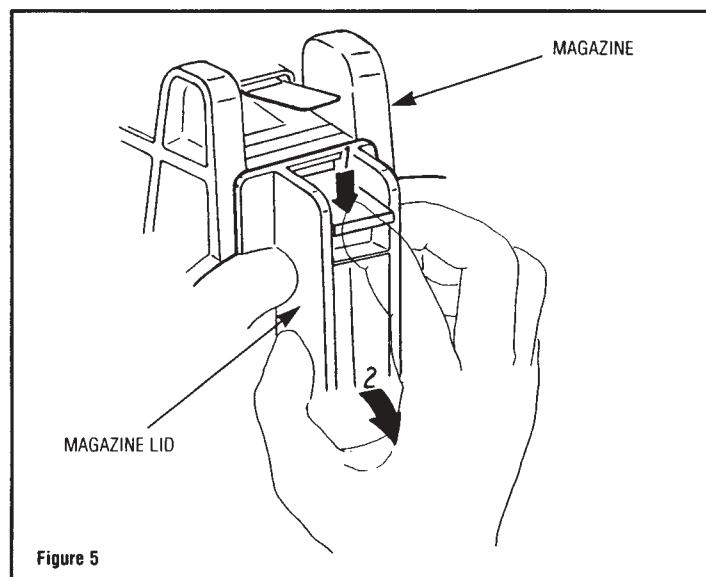
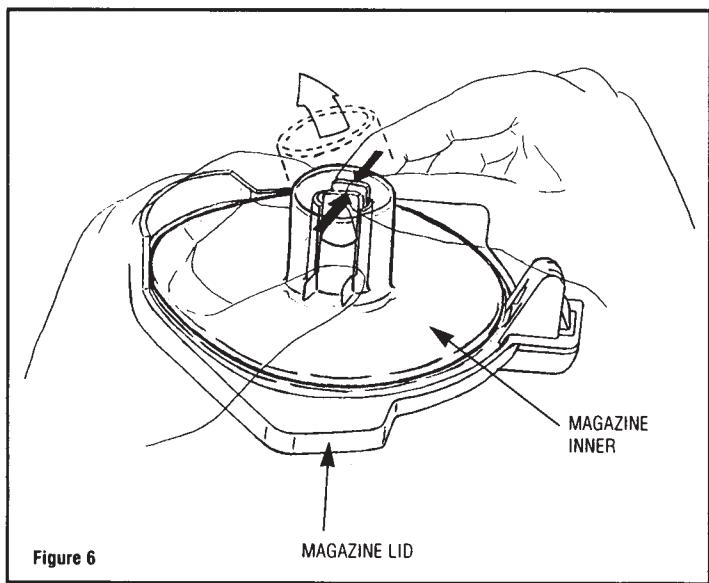

Figure 5
Figure 6
**(c) Magazine Inner Adjustment** - The magazine inner must be adjusted depending upon the length of fastener to be driven. To make this adjustment open the magazine cover by pulling the latch as in figure 5. To remove the inner magazine simply depress the two tabs together and lift as in figure 6. This figure shows the proper